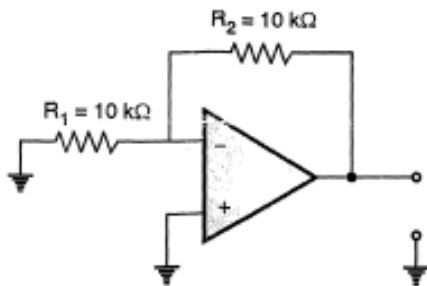

Figure 4
c) The op-amp used in the inverting circuit shown in Fig. 4, has an input bias current of 600 nA and an input offset current that can range between  $\pm 100$  nA. Find the resulting maximum output offset voltage.